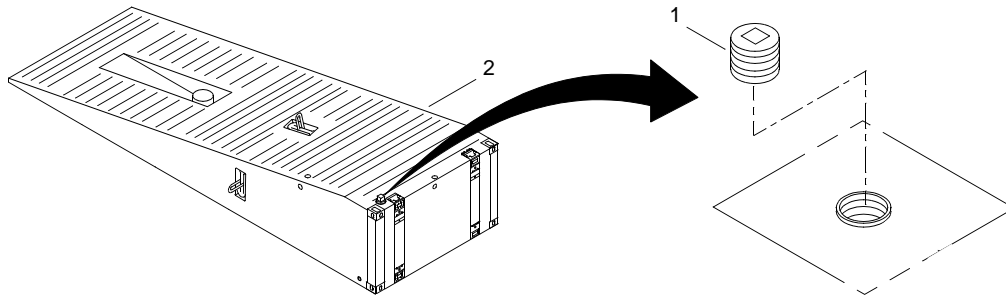

Figure 3. Combination Beach/Sea End Module Drain Plug
3. A drain plug (figure 3, item 1) is located on the top of the combination beach/sea end modules (figure 3, item 2).